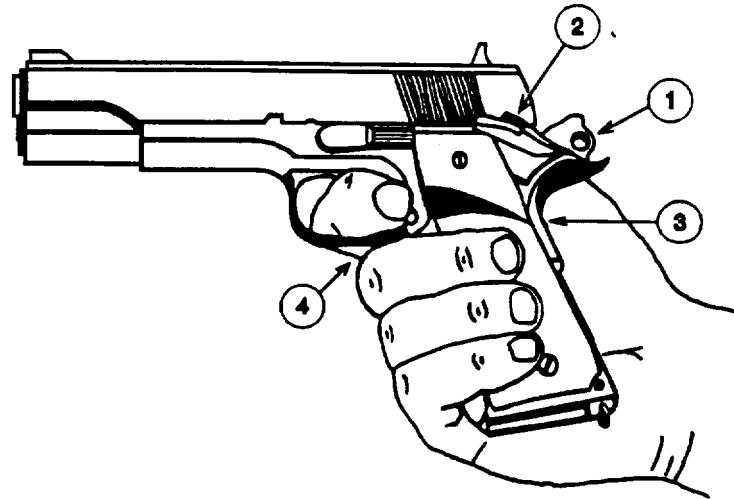

Figure 6-38. Beavertail Grip Safety Test
c. Beavertail Grip Safety Test. With the pistol unloaded, cock the hammer (1), Figure 6-38, and pull the ambidextrous thumb safety (2) down to the FIRE position. Grasp the pistol *without* depressing the beavertail grip safety (3) and squeeze the trigger (4) three or four times. If the hammer (1) falls, replace the beavertail grip safety, the sear and/or the sear spring.